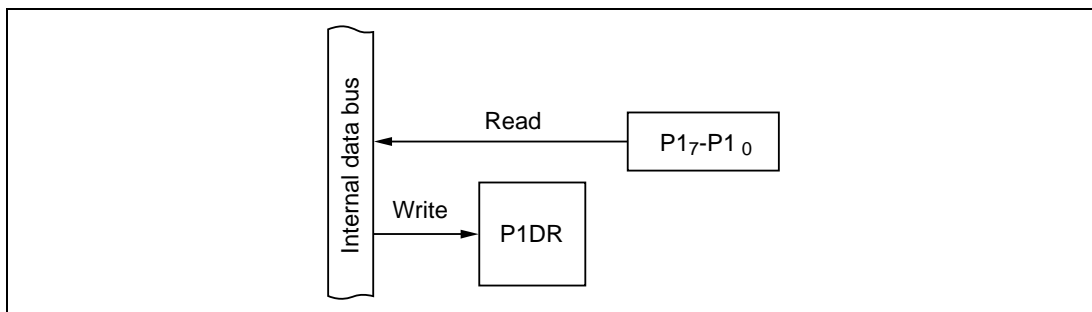

Figure 10-6 Input Port (Mode 7)
(2) Input Port (Mode 7): Figure 10-6 shows a block diagram illustrating the general-purpose input function. Table 10-4 indicates register read/write data. When port 1 operates as an input pin, values written in the port 1 data register (P1DR) have no effect on general-purpose input lines. When read, P1DR returns the value at the pin.